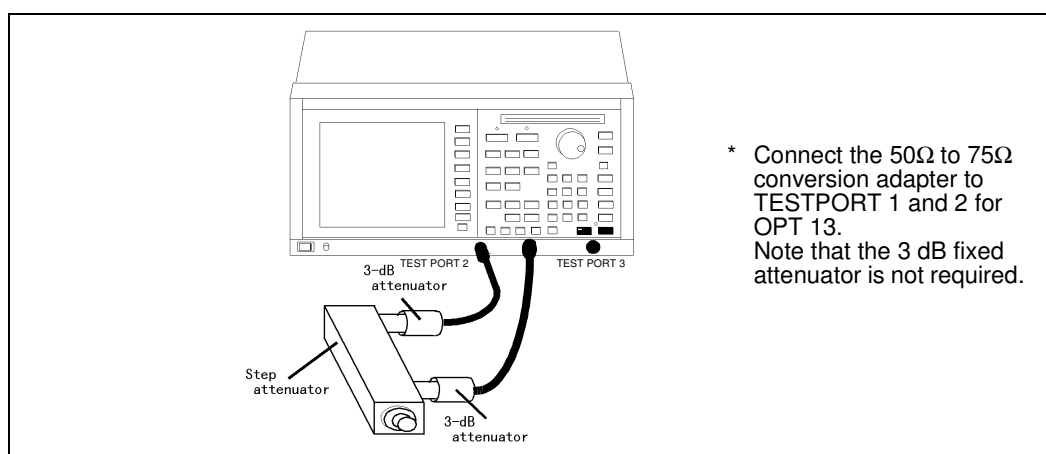

Figure 10-35 Connections for TEST PORT 1 Measurement for Dynamic Level Accuracy
- (1) Connect two 3-dB attenuators and step attenuator using the RF cables between TEST PORT 1 and TEST PORT 2 shown in Figure 10-35.